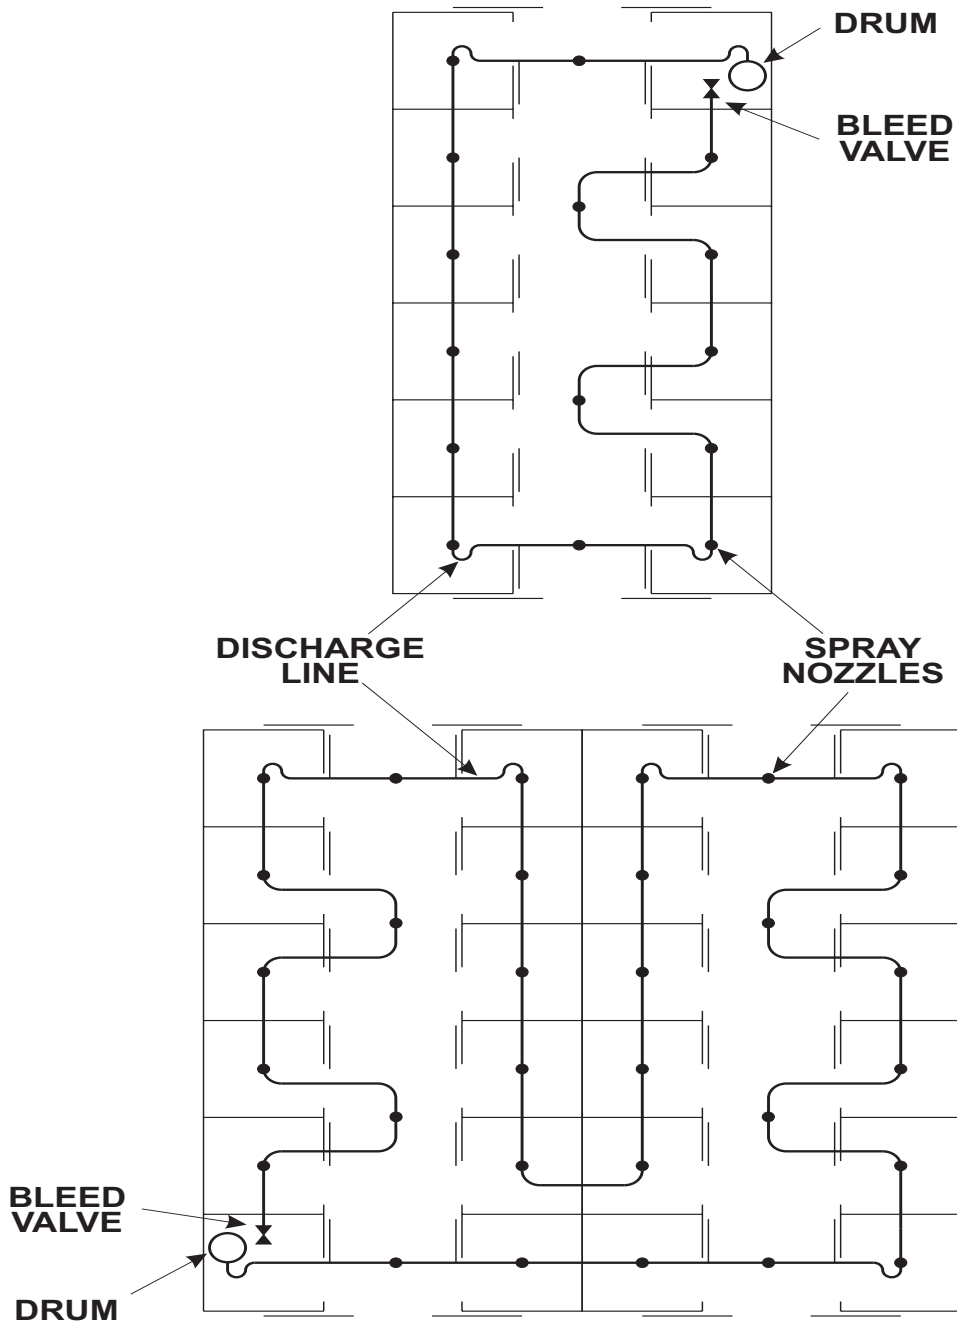

Figure 4 – Sample Barn Diagrams
8. Remove the spray nozzles from package. Using the barn diagrams as a guide (figure 4), run the ¼ inch nylon tubing on the ground around the stall area to be treated, beginning at the tank.